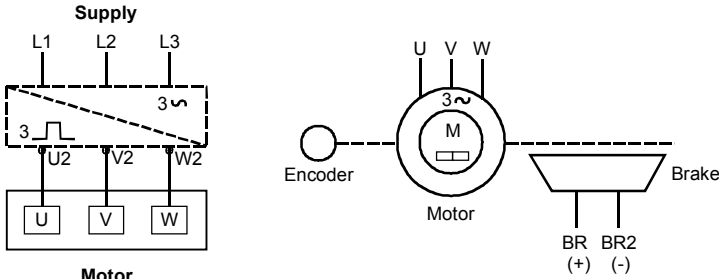
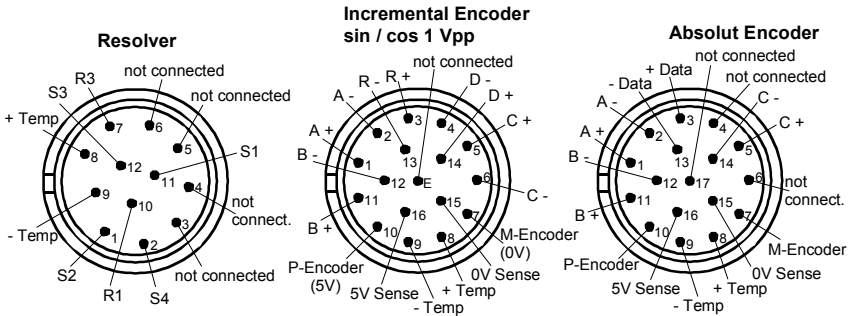

Fig. 6 Circuit diagram
Fig. 9 Signal connection (view of connector pins)
- Observe the data on the rating plate (chapter 3.1) and the information in the wiring diagrams (Fig. 6 to Fig. 9).